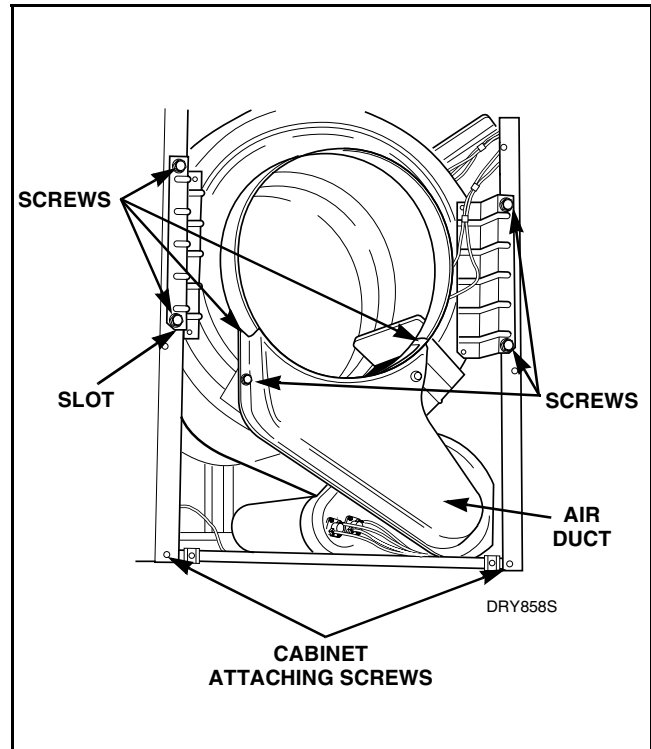

Figure 32
- Remove four screws holding bulkhead to front flange of cabinet and lift complete bulkhead assembly out of slots in cabinet. Refer to *Figure 32*.
- Remove four screws holding bulkhead to front flange of cabinet. Lift complete bulkhead assembly out of slots in cabinet. Refer to *Figure 32*.
- j. Remove four screws holding bulkhead to front flange of cabinet. Lift complete bulkhead assembly out of slots in cabinet. Refer to *Figure 32*.
- e. Remove four screws holding bulkhead to front flange of cabinet. Lift complete bulkhead assembly out of slots in cabinet. Refer to *Figure 32*.